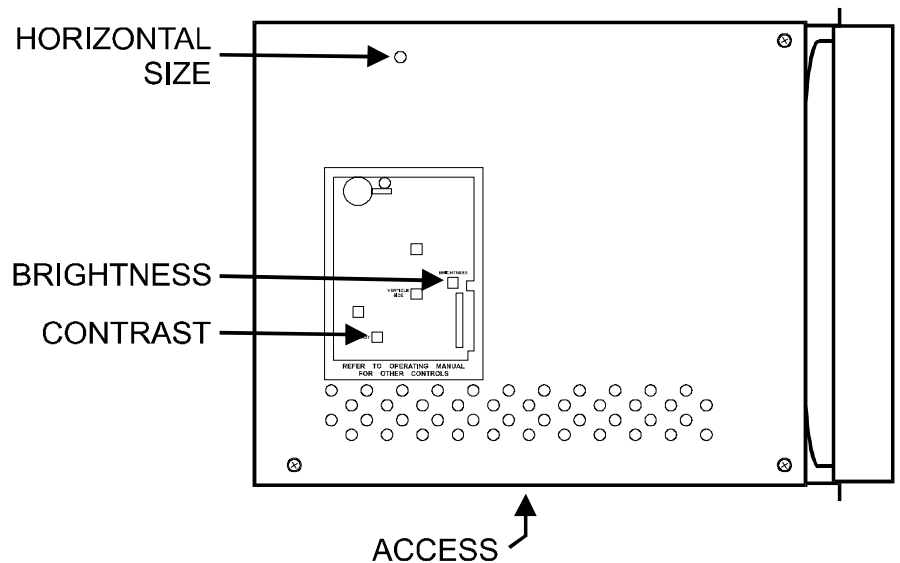

Figure 6-23. *CRT Monitor Adjustments*
- Step 1.** Refer to the locator drawing on the CRT Monitor assembly top cover and locate the brightness and contrast trim pots, accessible through the side opening (Figure 6-23).
- Step 2.** Insert a plastic or nylon hex alignment tool through the access hole (see Figure 6-23) and carefully adjust the horizontal size coil until the display is centered on the CRT.